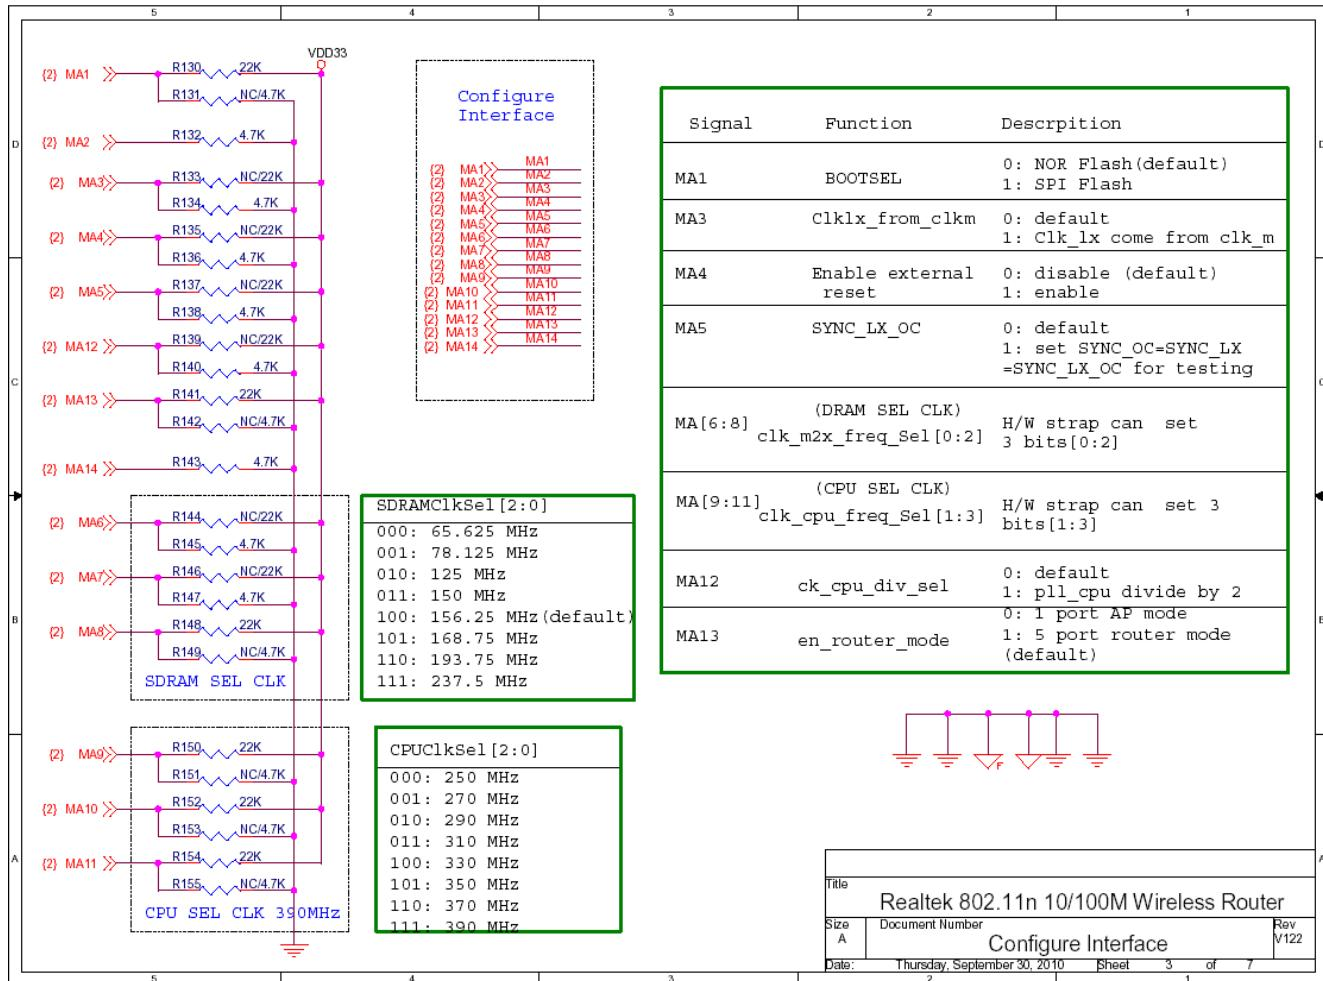

Fig 7.8.1 Realtek 802.11n 10/100M Wireless Router Interface Circuit
For hardware designer, please refer to Fig 7.8.1 and adjust signal MA11~9 (CPUClkSel[2:0]) to select CPU clock from 250MHz, 270 MHz, 290 MHz, 310 MHz, 330 MHz, 350 MHz, 370 MHz and 390 MHz.
- 1) For hardware designer, please refer to Fig 7.8.1 above and modify as follows: